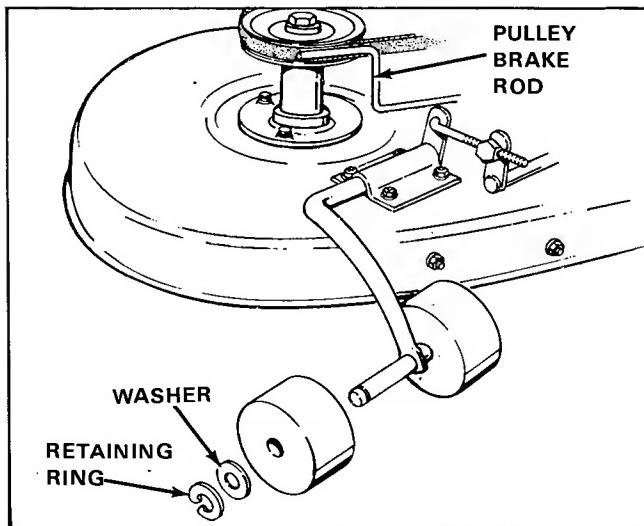

Figure 48. Installing Rollers
1. Install the rollers on the wheel support assemblies with $5/8 \times 1-1/4$ plain washers and the retaining rings as shown in figure 48.
9. Check to be sure the pulley brake rod (partially shown in figure 48) seats itself on the belt in both arbor pulleys. If not, loosen two screws on its holddown bracket and allow the spring to position the rod so that it bears against both pulleys. Retighten the two screws.